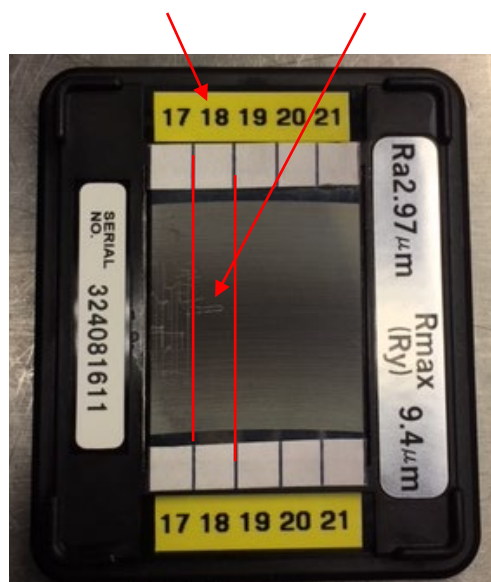

Fig 4.4.1 Reference Specimen Plate
- 4.5 Gently position the precision reference specimen plate at the front of the device underneath the needle, in the section for the current year as per fig 4.4.1.